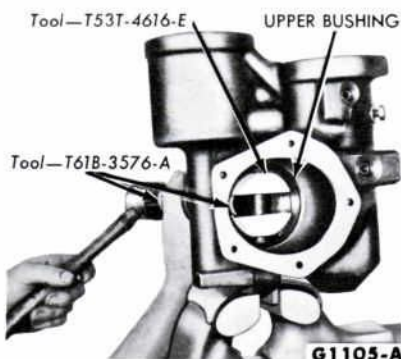
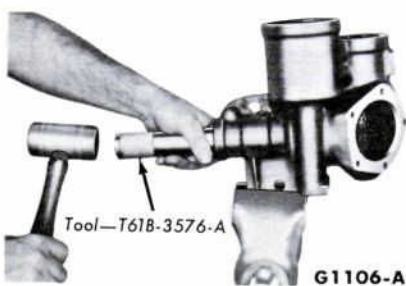

FIG. 56—Upper Bushing Removal
FIG. 57—Lower and Center Bushing Removal
3. Inspect the sector shaft bushings for scoring, grooves, or metal pick-up. If the bushings are worn or damaged, remove the upper bushing with the removing tools shown in Fig. 56, and/or remove the sector shaft lower and center bushings with the bushing driver shown in Fig. 57.